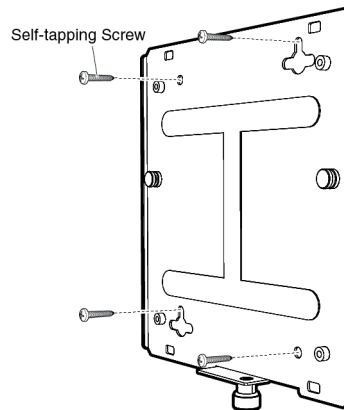

Figure 5. Mounting Base Plate
4. Mount the base plate to the wall or ceiling using the self-tapping screws, as shown in Figure 5.